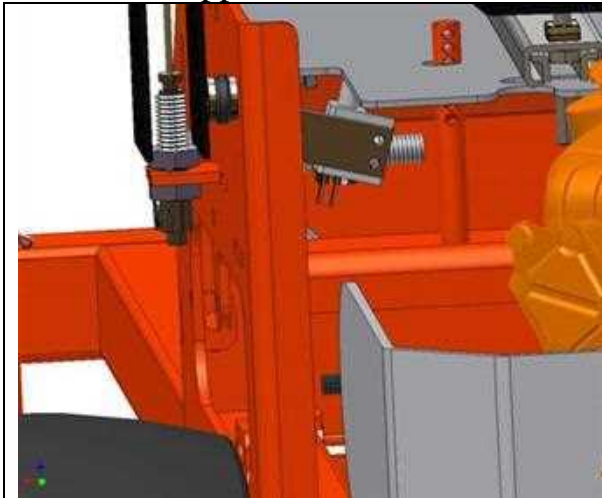
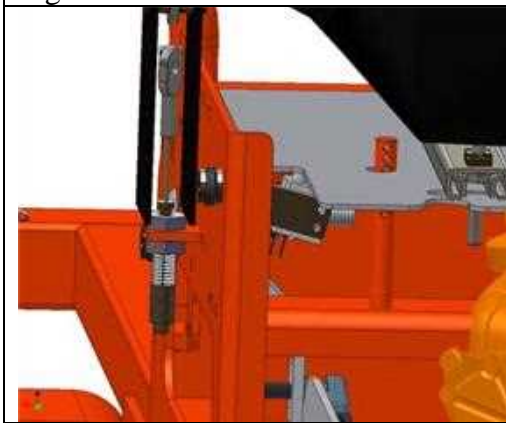

Figure 3
Figure 4
8. Adjust top of cable as shown from figure 3 to figure 4.